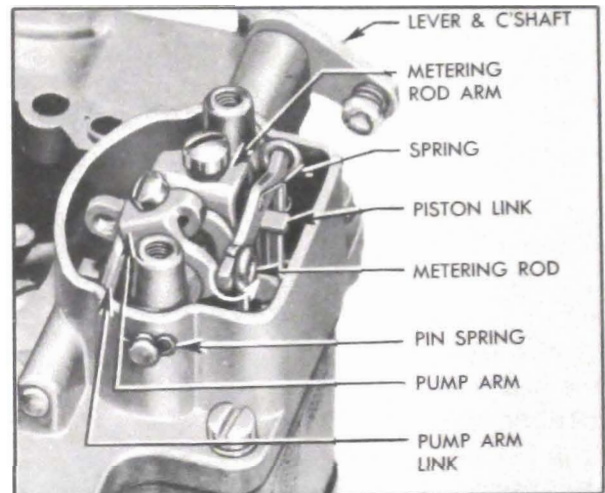

Figure 3-33—Removal of Metering Rods and Operating Parts
6. Remove dust cover. Rotate eyes of metering rods off pins on vacuum piston link and lift rods out, using care to avoid bending them. See figure 3-33.
7. Loosen screws in metering rod and pump arms, and remove pump arm link. Remove pin spring from end of pump operating countershaft, pull countershaft out and remove arms at the same time. See figure 3-33.
18. Coat pump operating countershaft with light graphite grease and start it into bearing in bowl cover. While holding metering rod arm so that it engages opening in vacuum meter piston link and pump arm so that it extends over pump plunger rod, push countershaft through both arms, then install pin spring in groove in end of countershaft. See figure 3-33.
22. Insert end of each metering rod in hooked end of metering rod spring, carefully push rod down to enter metering rod jet, then rotate eye of rod over pin on vacuum piston link. Use care to avoid bending metering rod. See figure 3-33.